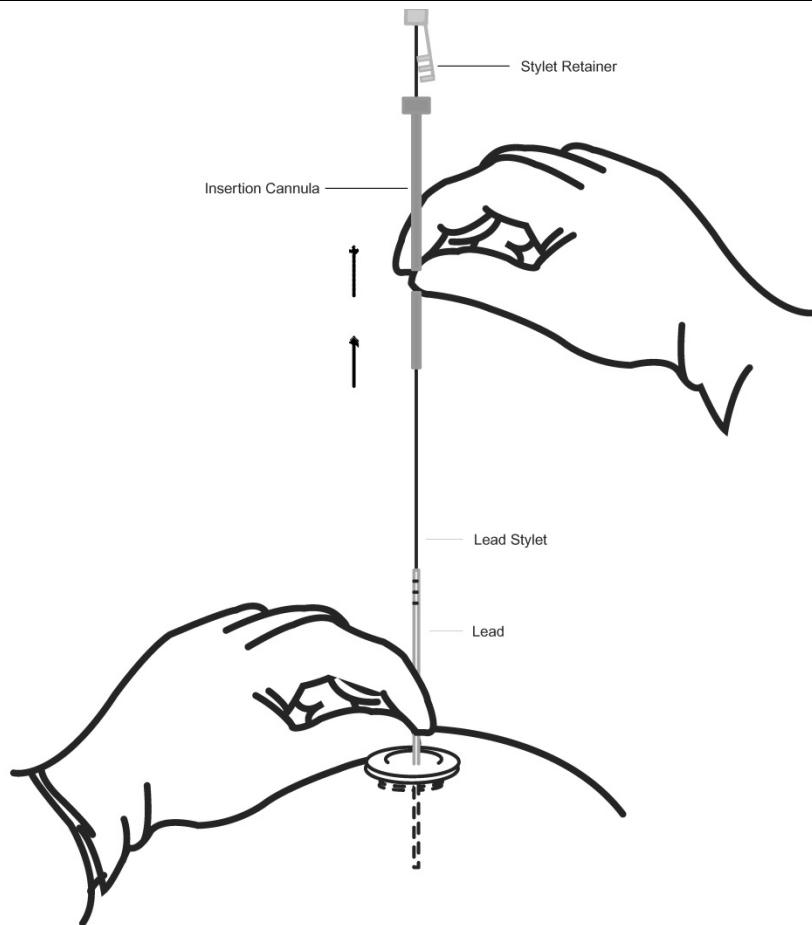

Figure 9: Removal of the insertion cannula, stylet, and stylet retainer from the lead.
3. Gently pull the insertion cannula up over the lead (Figure 9) while stabilizing the lead at the burr hole to avoid lead migration.